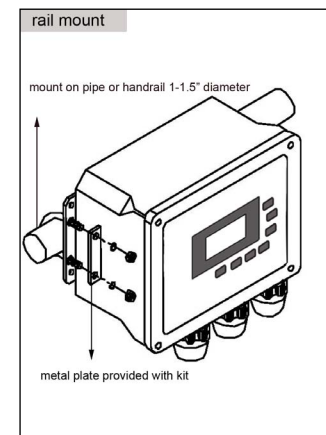

Figure 3.3
4. Place the u-bolts around the rail securing the 5X00 to the pipe or rail by feeding through the pre-drilled holes on the mounting brackets as shown in figure 3.3.